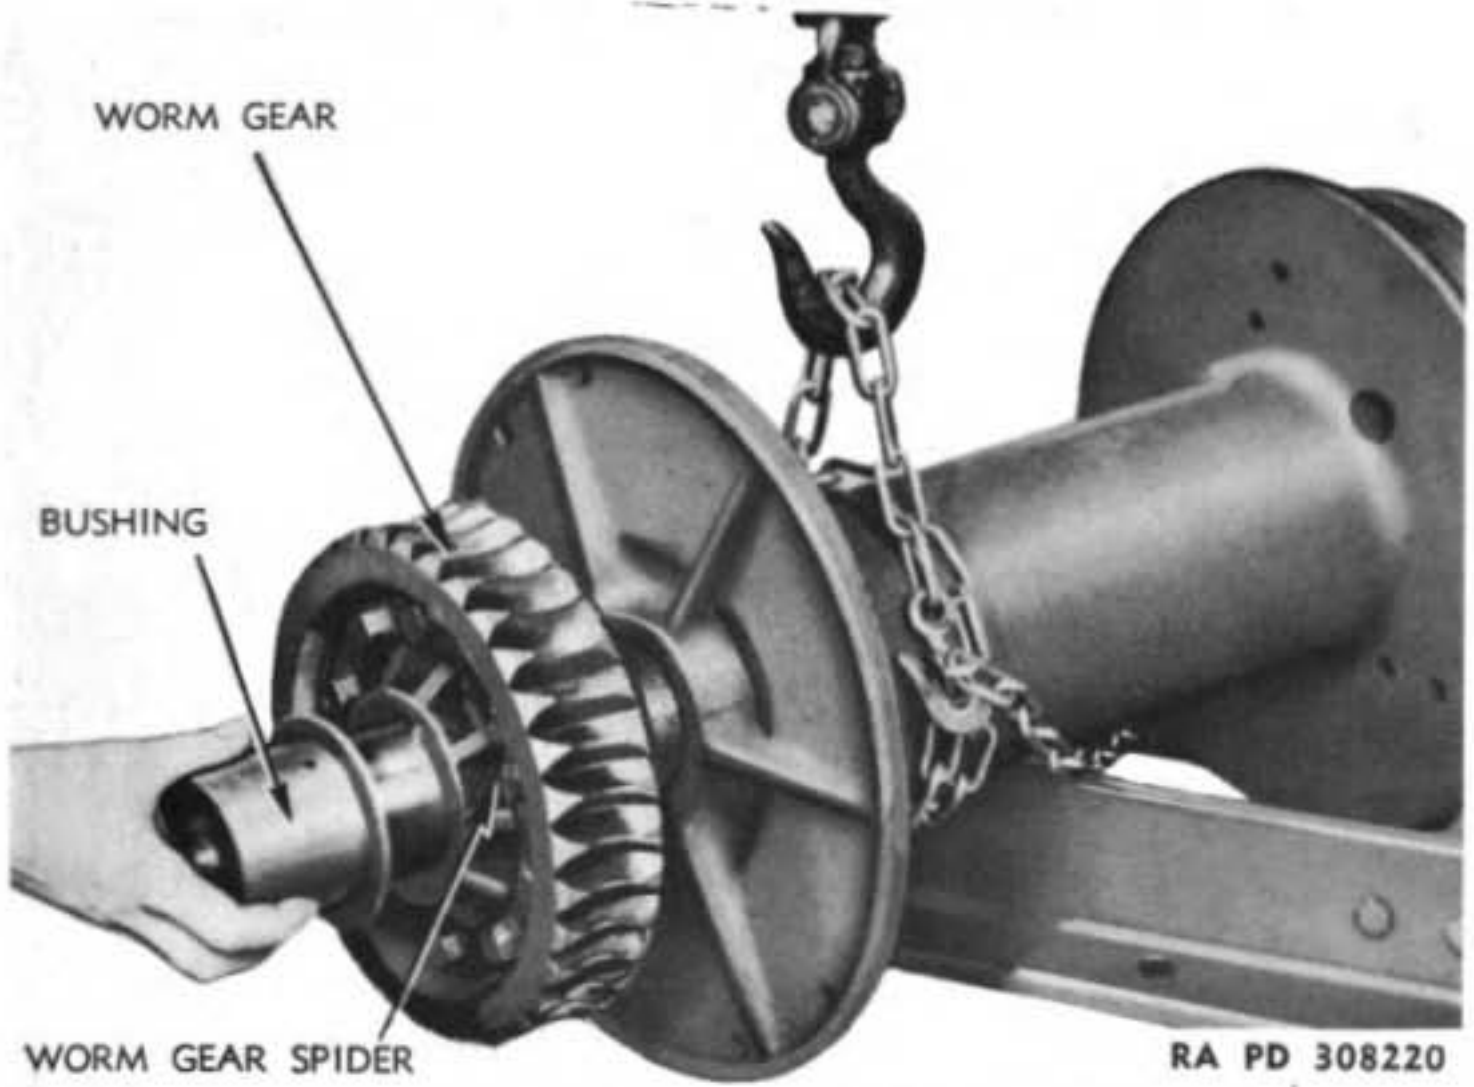

Figure 118 – Removing Outer Drum Shaft Bushing
(3) Remove cap screw and retaining washer from gear end of drum shaft, then slide outer drum shaft bushing off shaft (fig. 118). Slide shaft, with worm gear attached, out of drum. Slide inner drum shaft bushing off shaft.
(4) Remove nuts from the 10 bolts holding worm gear to worm gear spider. Tap bolts back with soft hammer till ends are flush with spider, then, using brass punch and hammer, drive them on out. Use care not to damage threads. Tap gear off spider with soft hammer, then place shaft in press and press shaft out of spider.
(5) Slip a drum shaft bushing on shaft at each side of worm gear with flanges towards gear (fig. 118). Insert shaft through drum from end of drum opposite cable clamp. Slip inner thrust ring onto clutch end of shaft with notches facing end of shaft. Make sure there are no burrs on keys or in slots in shaft, then tap two keys into slots in shaft (fig. 117).